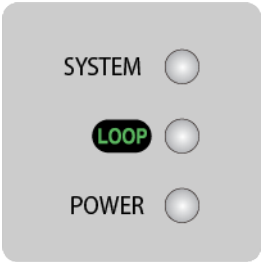

Figure 3. Switch LEDs
**LEDs** The LEDs on the front panel of the AT-XS910/8 switch display status information. See Figure 3.